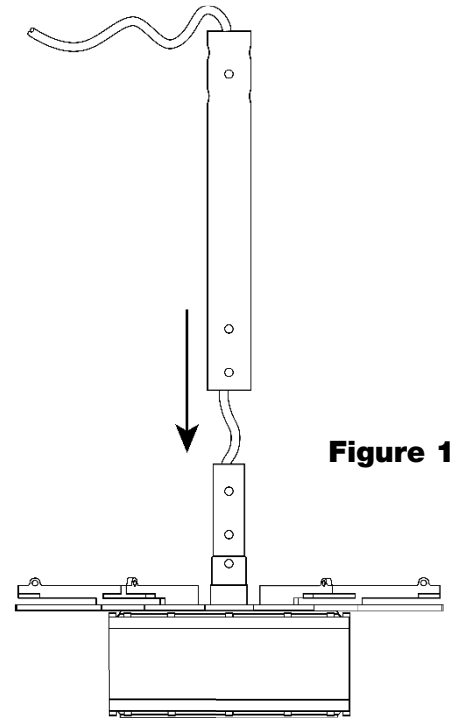

Figure 13
2. Feed the 4-Conductor Cable through the Mounting Shaft then carefully slide the Mounting Shaft over the Fan's Center Shaft. Refer to **figure 13**.